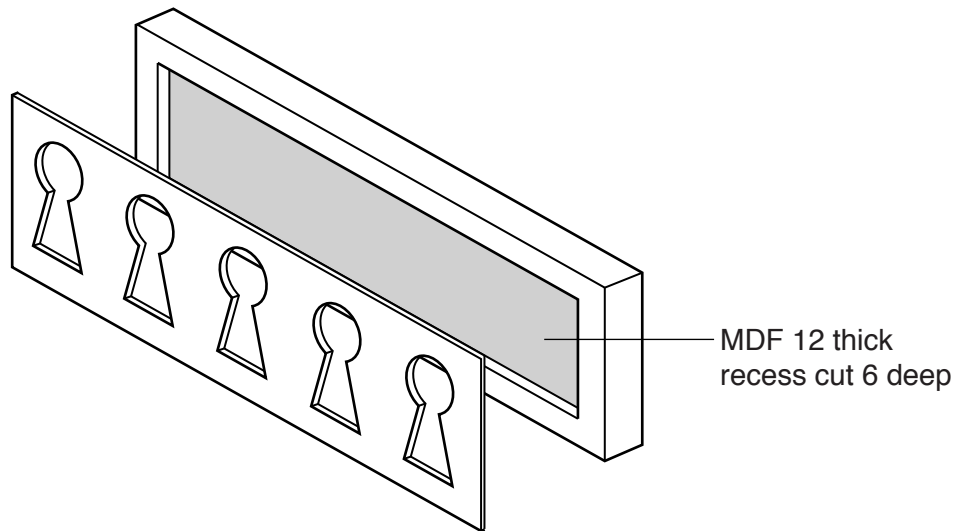

Fig. 19
(d) Fig. 19 shows an exploded view of the key rack.
- (i) Name **two** tools or items of equipment that could be used to cut out the recess shown in Fig. 19.